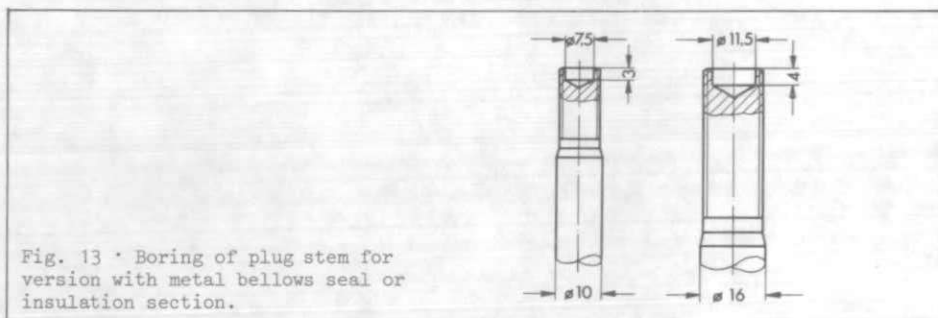

Fig. 13 * Boring of plug stem for version with metal bellows seal or insulation section.
Caution : If a standard valve version is to be converted into a version with metal bellows seal or insulation section at a later date, the plug stem (6) must be bored as shown in Fig. 13 to accomodate the ball (6.4).